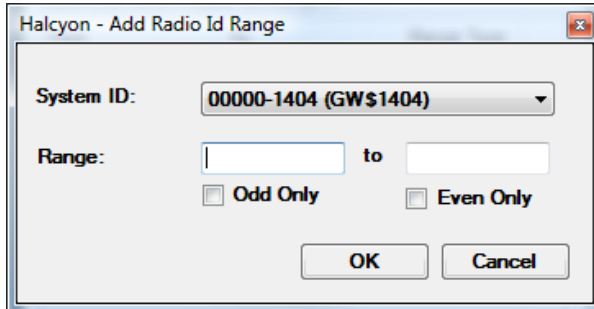

Figure 1.3 – Add Radio Id Range window
- **Add:** Add an Auto Call Alert range. This button loads the *Add Radio Id Range* window, shown below in Figure 1.3.